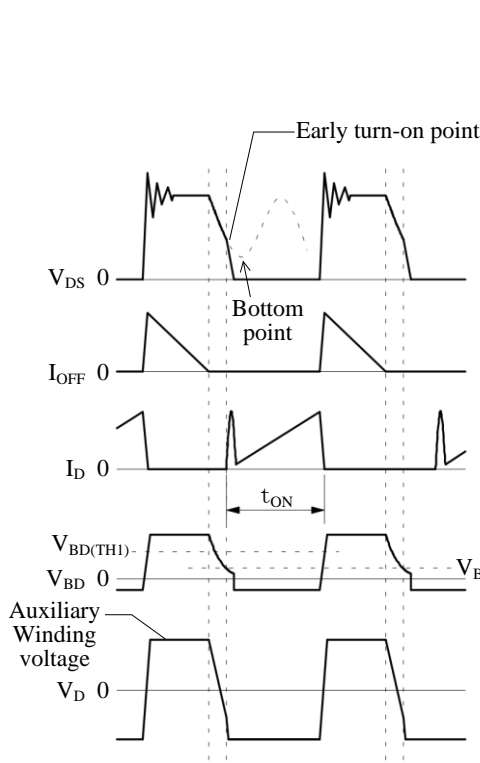

Figure 8-14. When the Turn-on of a V_{DS} Waveform Occurs before a Bottom Point
- If the turn-on point precedes the bottom of the V_{DS} signal (see Figure 8-14), it causes higher switching losses. In that situation, after confirming the initial turn-on point, delay the turn-on point by increasing the C_{BD} value gradually, so that the turn-on will match the bottom point of V_{DS} .